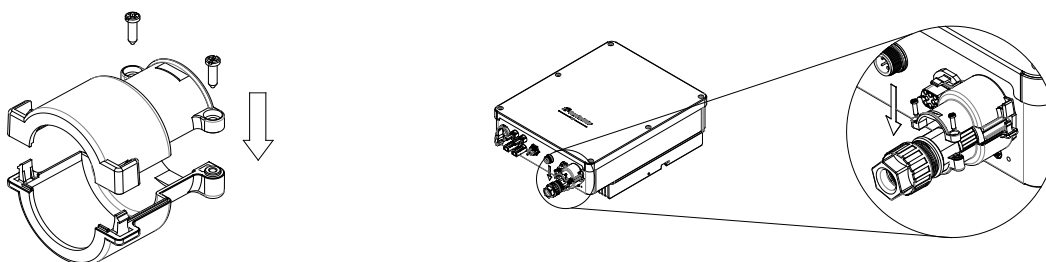

FIG. 7-8 Install the Protective cover
- a) Put the two covers on the AC connector, as per FIG.7-8.